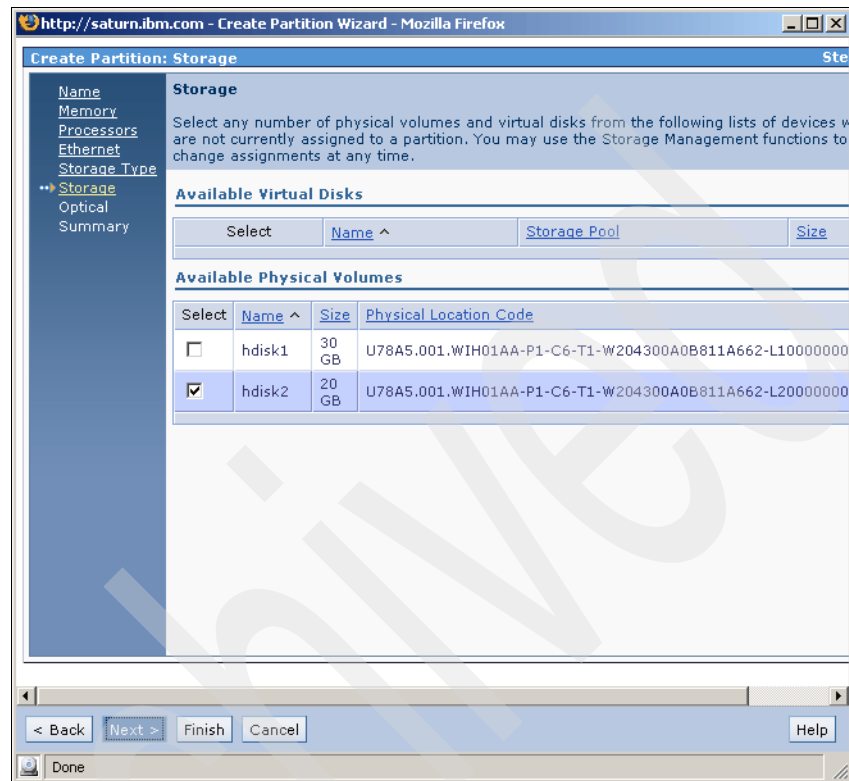

Figure 4-21 Create partition - select physical volumes
10. Select the physical volume or volumes that need to be available to the partition. Figure 4-21 shows the section of hdisk1. Click **Next** to proceed.